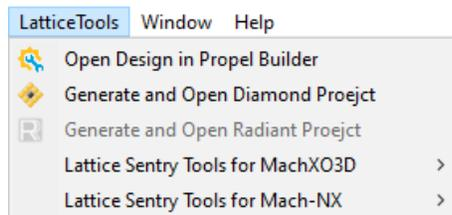

Figure 3.8. LatticeTools Menu
- Choose **LatticeTools** >  **Open Design in Propel Builder** (Figure 3.8).